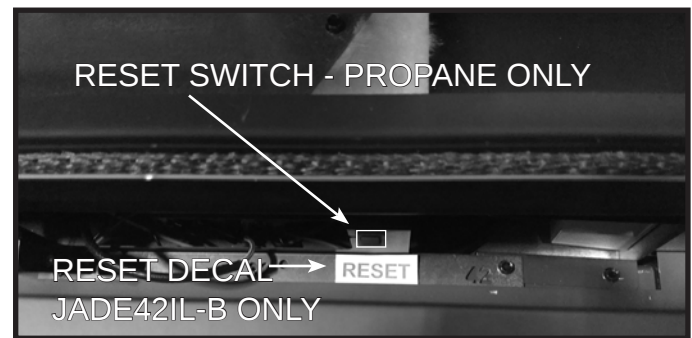

Figure 3.5 Reset Switch Location (Decal on JADE42IL-B Only)
For propane applications, (JADE42IL-B) the appliance has a hard lockout and the IFT-ECM must be reset. This appliance has a reset switch located inside the control cavity for propane applications. See Figure 3.5 for approximate location.
- Locate reset switch inside the appliance. See Figure 3.5. Hold reset switch down for one second and release. A “beep” will signal module is reset.